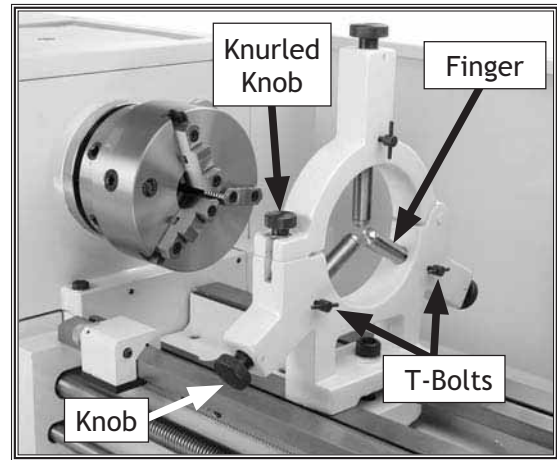
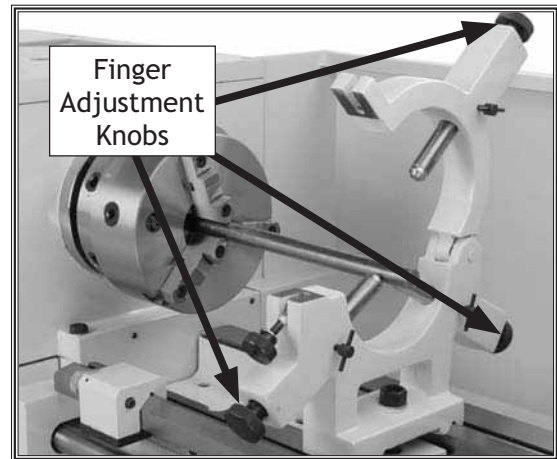

Figure 45. Steady rest adjustments.
Figure 46. Positioning workpiece in steady rest.
2. Loosen the three T-bolts so the finger position can be adjusted (see **Figure 45**).
3. Loosen the knurled knob (see **Figure 45**) and open the steady rest so a workpiece can fit inside of the fingers (see **Figure 46**).